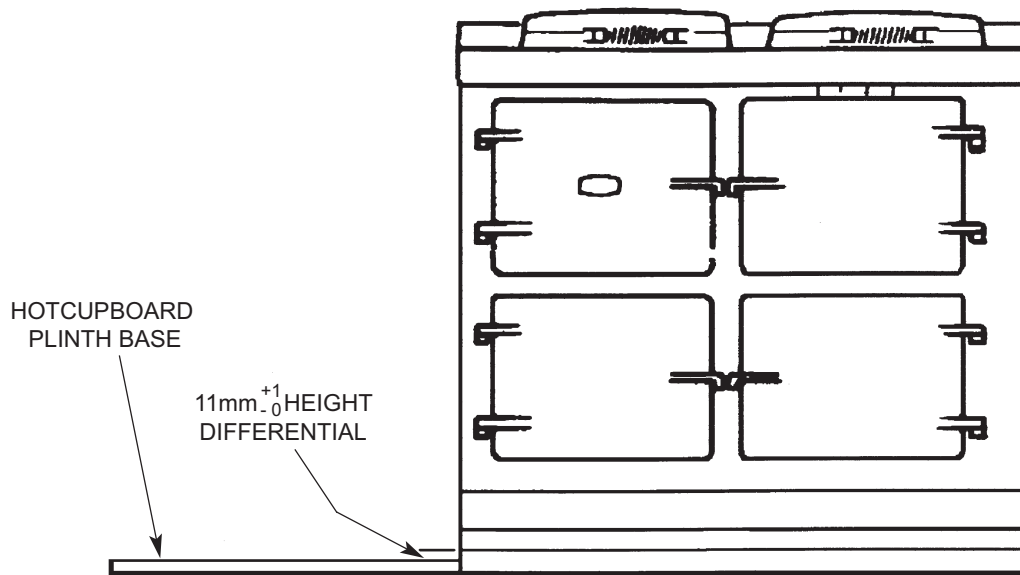

Fig. 13
2. Position the plinth alongside the AGA Dual Control leaving no gap between the two plinths (See Fig. 13).